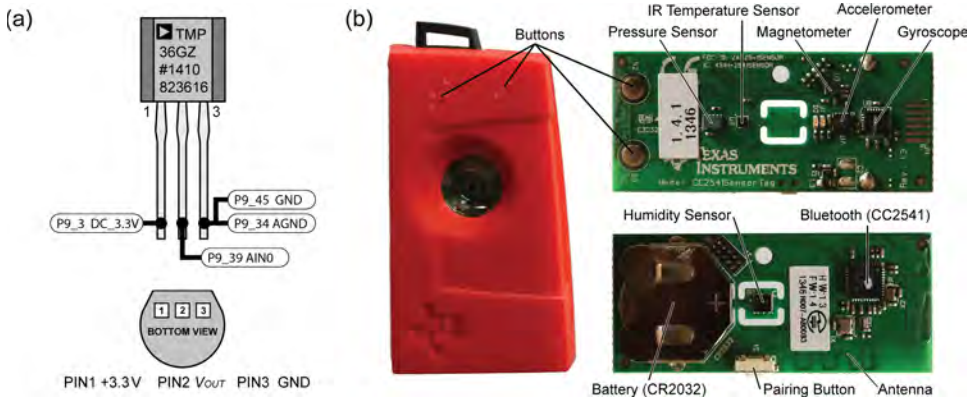

Figure 10-2: (a) The Analog Device TMP36 Temperature Sensor; (b) the Texas Instruments SensorTag
Two new sensors are illustrated in Figure 10-2, the *Analog Devices TMP36* temperature sensor and the *Texas Instruments SensorTag*. The TMP36 is used throughout this chapter, as it has a low cost (\$1–\$2) and is widely available. The SensorTag (~\$25) is also introduced because it demonstrates the capability of Bluetooth 4.0/LE—a low-energy Bluetooth protocol that is ideal for connecting *things* to your BBB.
A wiring configuration for the sensor to the BBB is identified in Figure 10-2(a). To set up and build the example code, follow these steps:
Bluetooth Low Energy (LE) (aka *Bluetooth Smart*) is a technology for wireless personal area network applications, such as home automation, healthcare, and home entertainment. Bluetooth Smart is focused on low-energy applications, while still maintaining the same communications range as regular Bluetooth. The SensorTag, which is illustrated in Figure 10-2(b), has a quiescent current consumption of 8 μ A, potentially enabling it to operate on a small CR2032 battery for many months. The SensorTag is a *Bluetooth Smart development kit* that is targeted in particular at smartphone application developers. However, it can also be used by the BBB as a sensor node that can collect data from its environment.